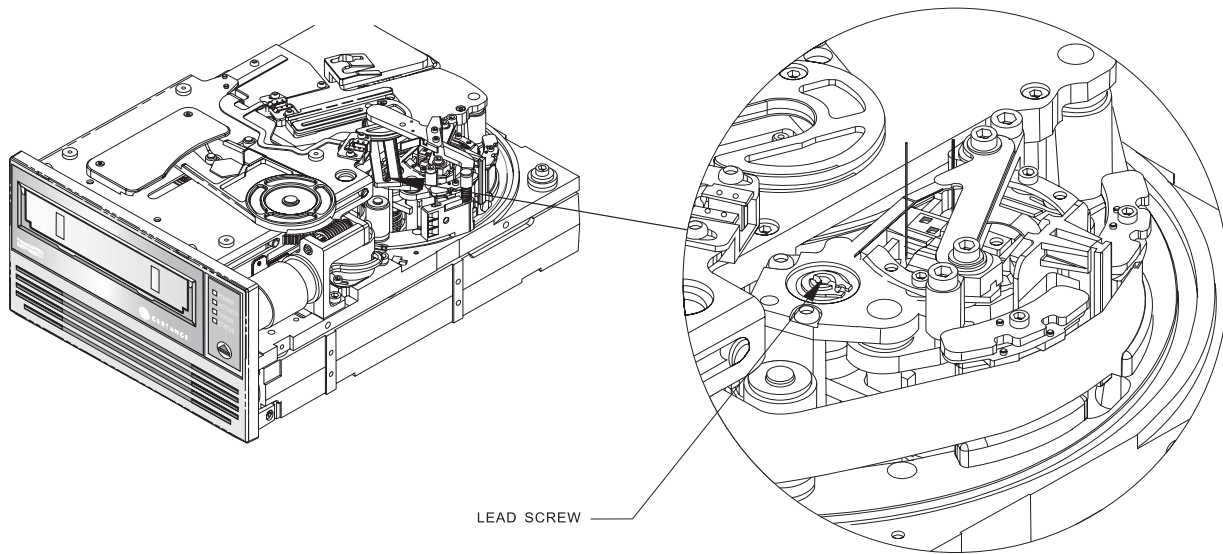

Figure 24. LTO-1 and LTO-2 Drive Lead Screw (Tape Threaded on Take-up Reel)
1. Be sure the head assembly is in the lowered position by turning the lead screw (see Figure 24 on page 80) clockwise with the flat blade screwdriver. This is necessary to allow the load arm to clear the head assembly when it is moved back toward the cartridge.